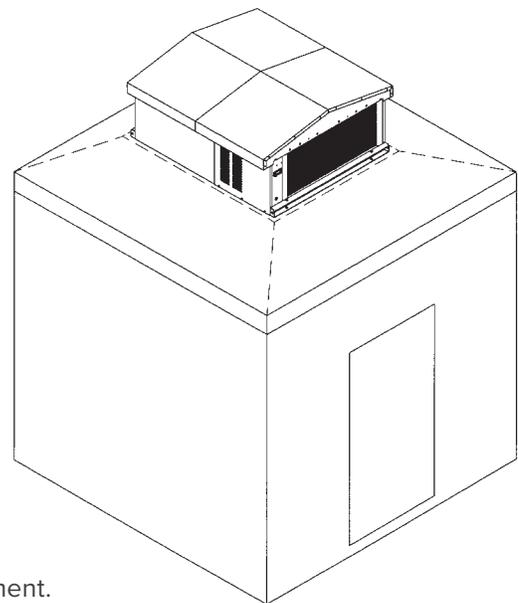

Figure 4. Weather hood installed after electrical service connection.
12. Reinstall the protective weather hood. (See Figure 4, page 7)